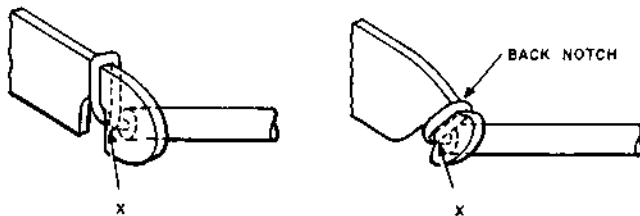

Fig. 3—Termination of Wire on Protector (notch on underside of terminal)
8.04 To terminate a wire on the terminal of a protector where the notch appears on the underside of the terminal as shown in Fig. 3, bring the wire under the terminal, up through the notch, along the front of the terminal, over the top edge, or through the back notch where provided, and down the rear side, making one complete turn of bare wire around the terminal. Cut or break the excess wire at point "X".